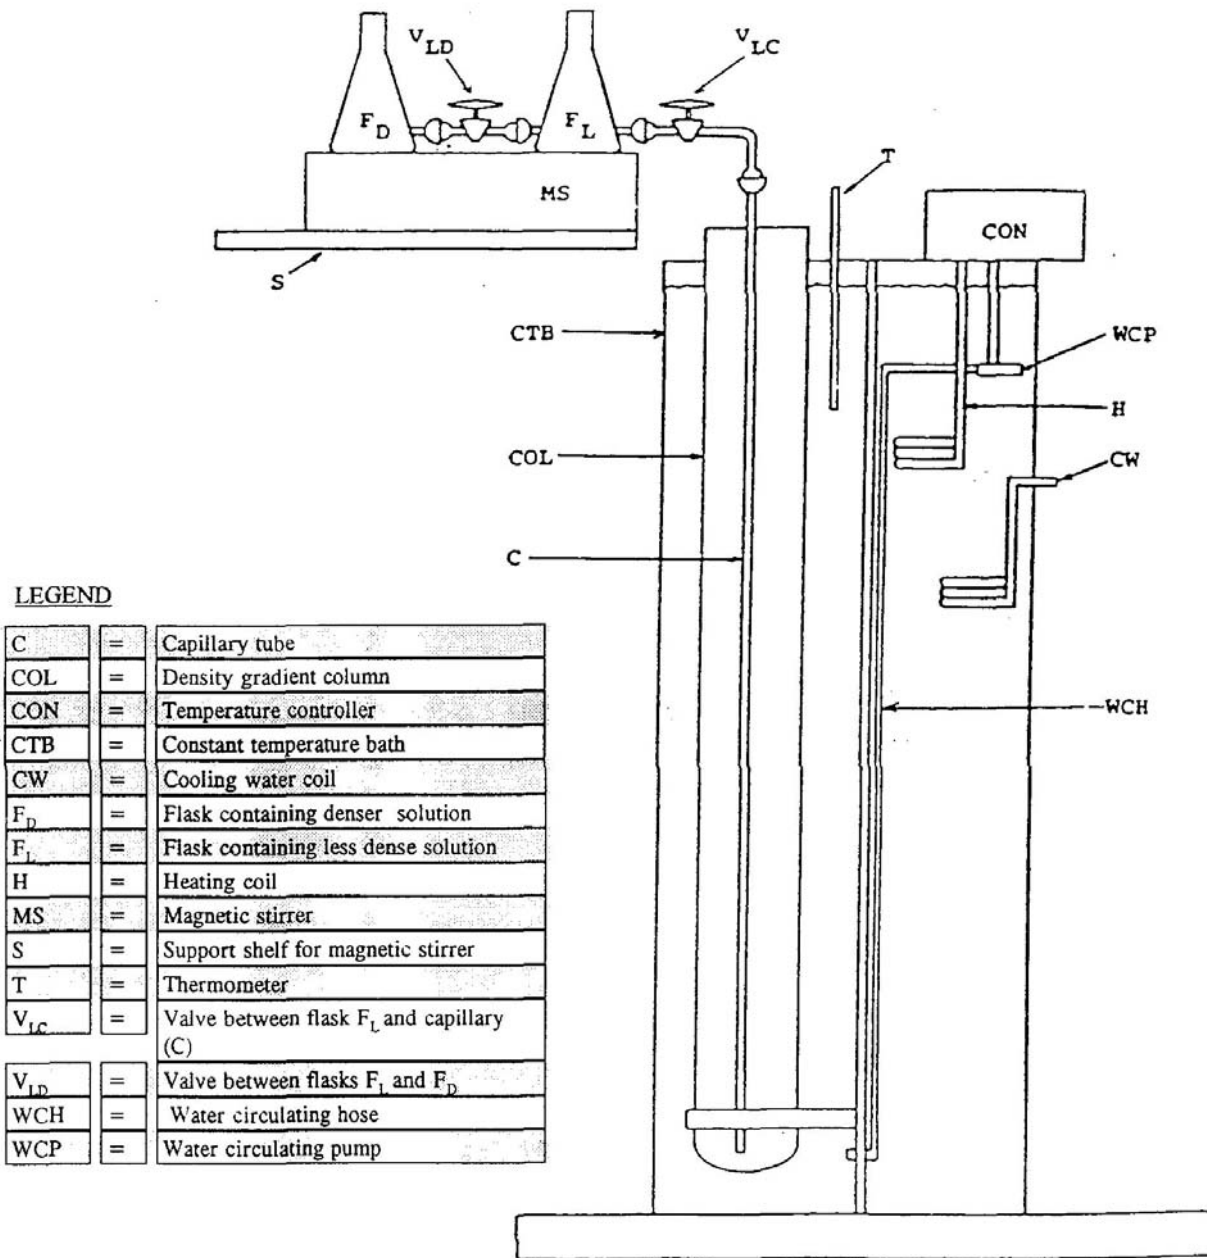

FIGURE 4
The apparatus is to be set up as per Figure 4. Add distilled or deionized water to constant temperature bath (CTB). Insert column (COL), forcing it to the support at the bottom of the bath. BAND THE COLUMN DOWN to prevent buoyancy. Finish filling CTB to within 1" of the top. Plug in the heater and set the desired temperature (e.g. 23°C). If the ambient temperature is above 19°C, connect the cooling water to coil (CW), and run the water at a reasonable rate.